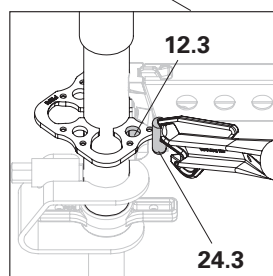

Fig. A4.11a
1. Fit the shoring brace at an angle of approx. 45° with the lower diagonal head (**24.1**) onto the lower rosette. (Fig. A4.11a + A4.11c)